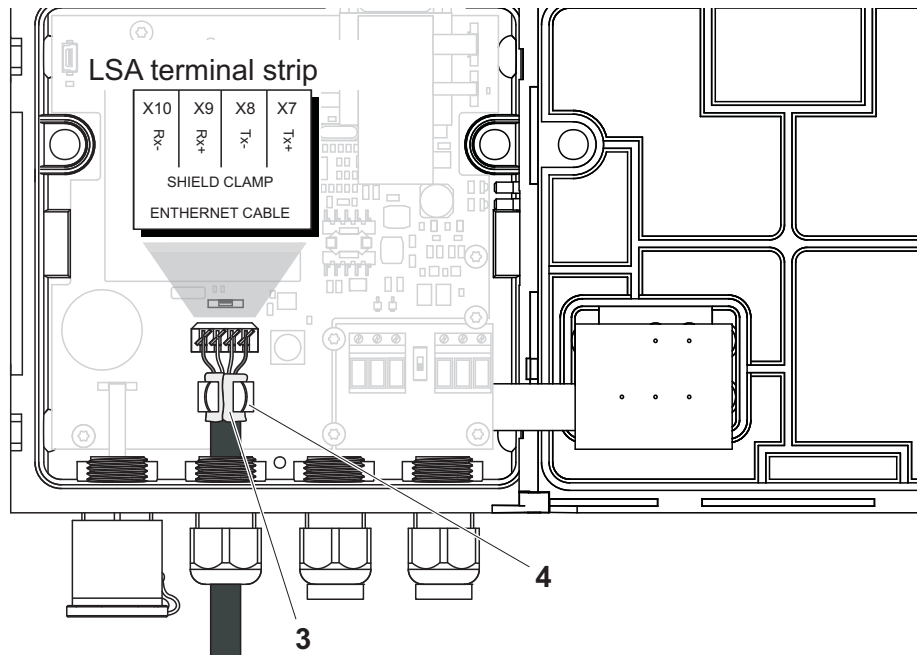

Fig. 2-4 Ethernet connection via terminal strip
6	Carefully slash the cable shield (foil + netting) lengthwise and put it backwards over the cable sheath (pos. 3 in Fig. 2-4).
8	Where the cable shield was put backwards, press the Ethernet cable into the shielding terminal (pos. 4 in Fig. 2-4). The shielding terminal must contact the cable shield across a wide area.